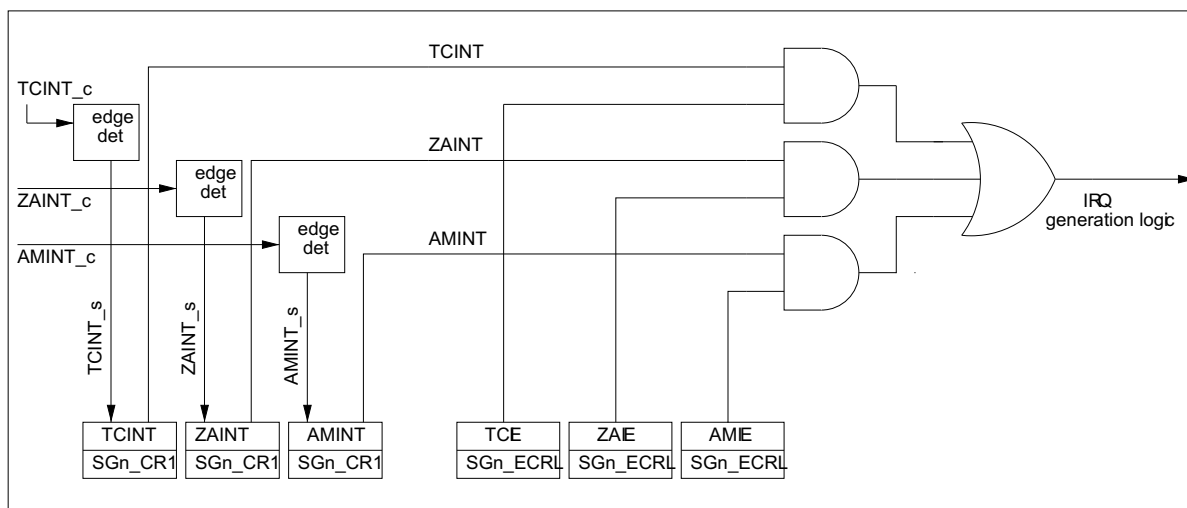
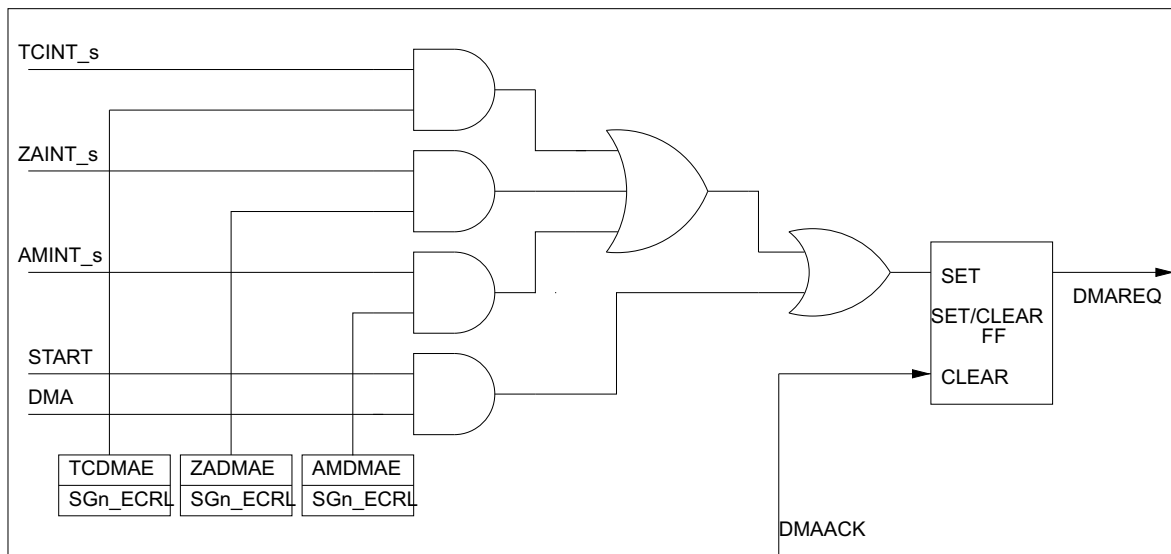

Figure 6-23: Interrupt request generation logic
Figure 6-24: DMA request generation logic
- Refer to Figure 6-23 and Figure 6-24 in the following section to show IRQ interrupt generation logic and DMA request generation respectively.